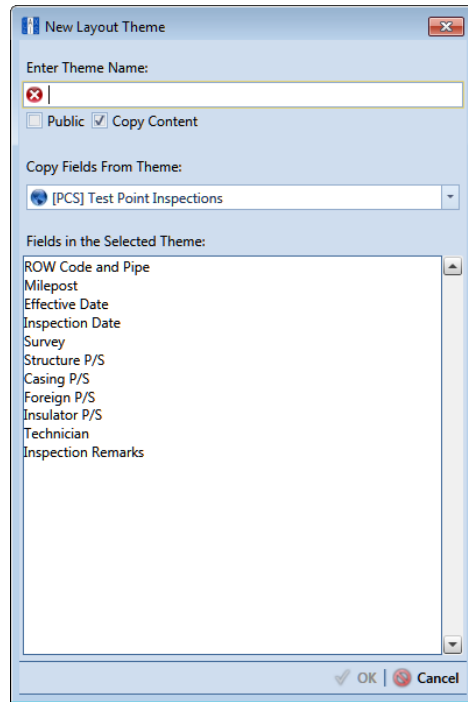

Figure 16-32. New Layout Theme
- 4 Click  **Add** to open the *New Layout Theme* dialog box (Figure 16-32).